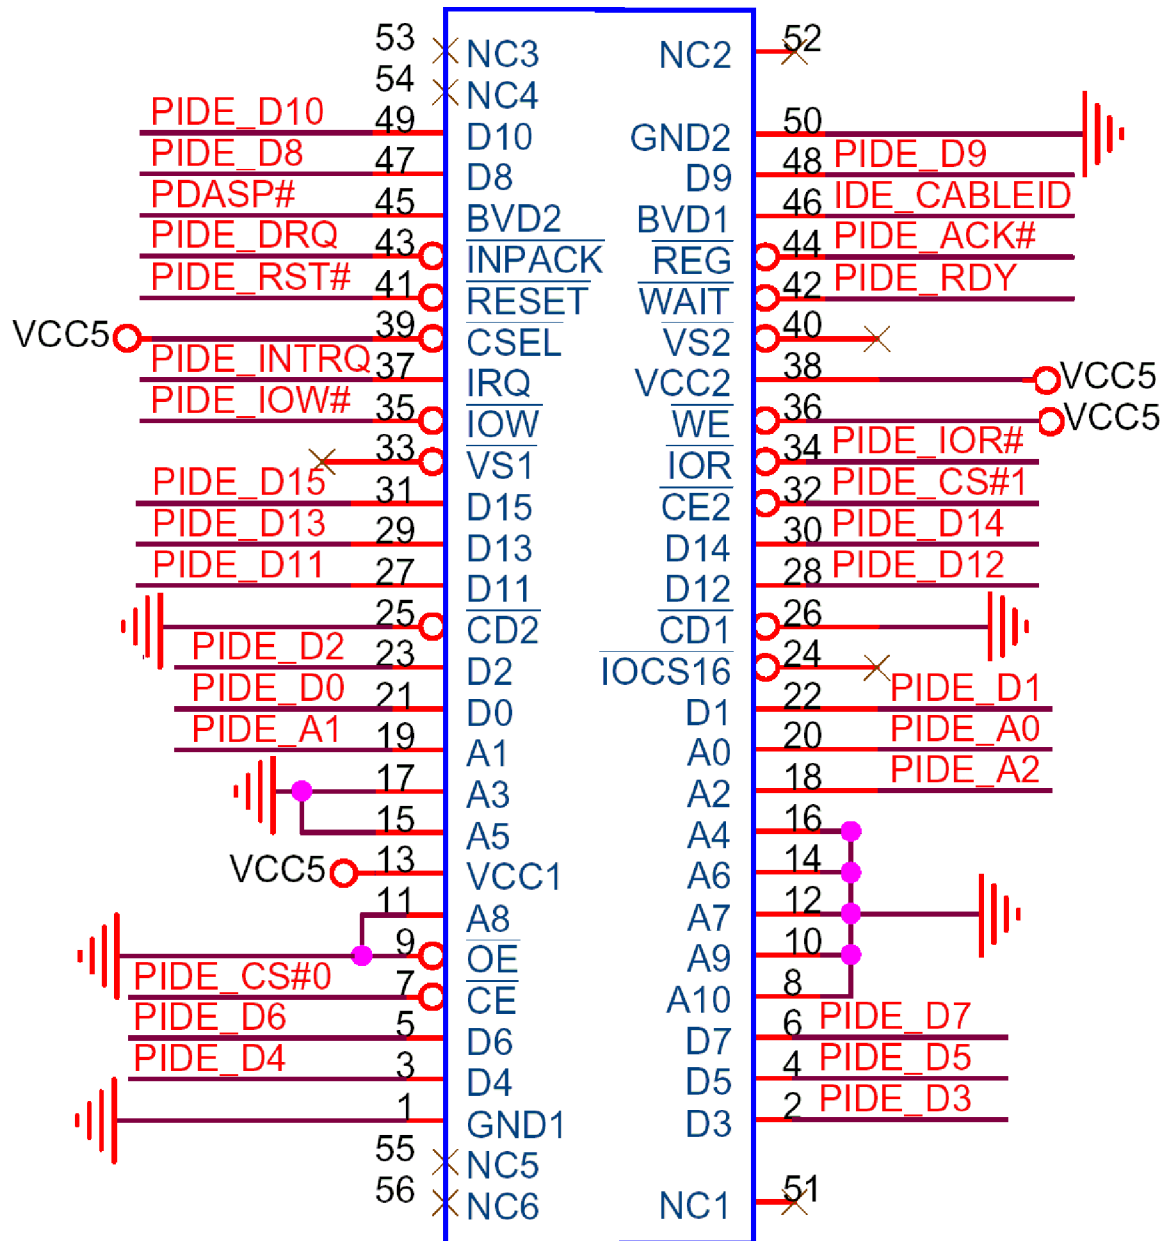

Figure 4-8: CF Card Socket Location
- CN Location:** See Figure 4-8